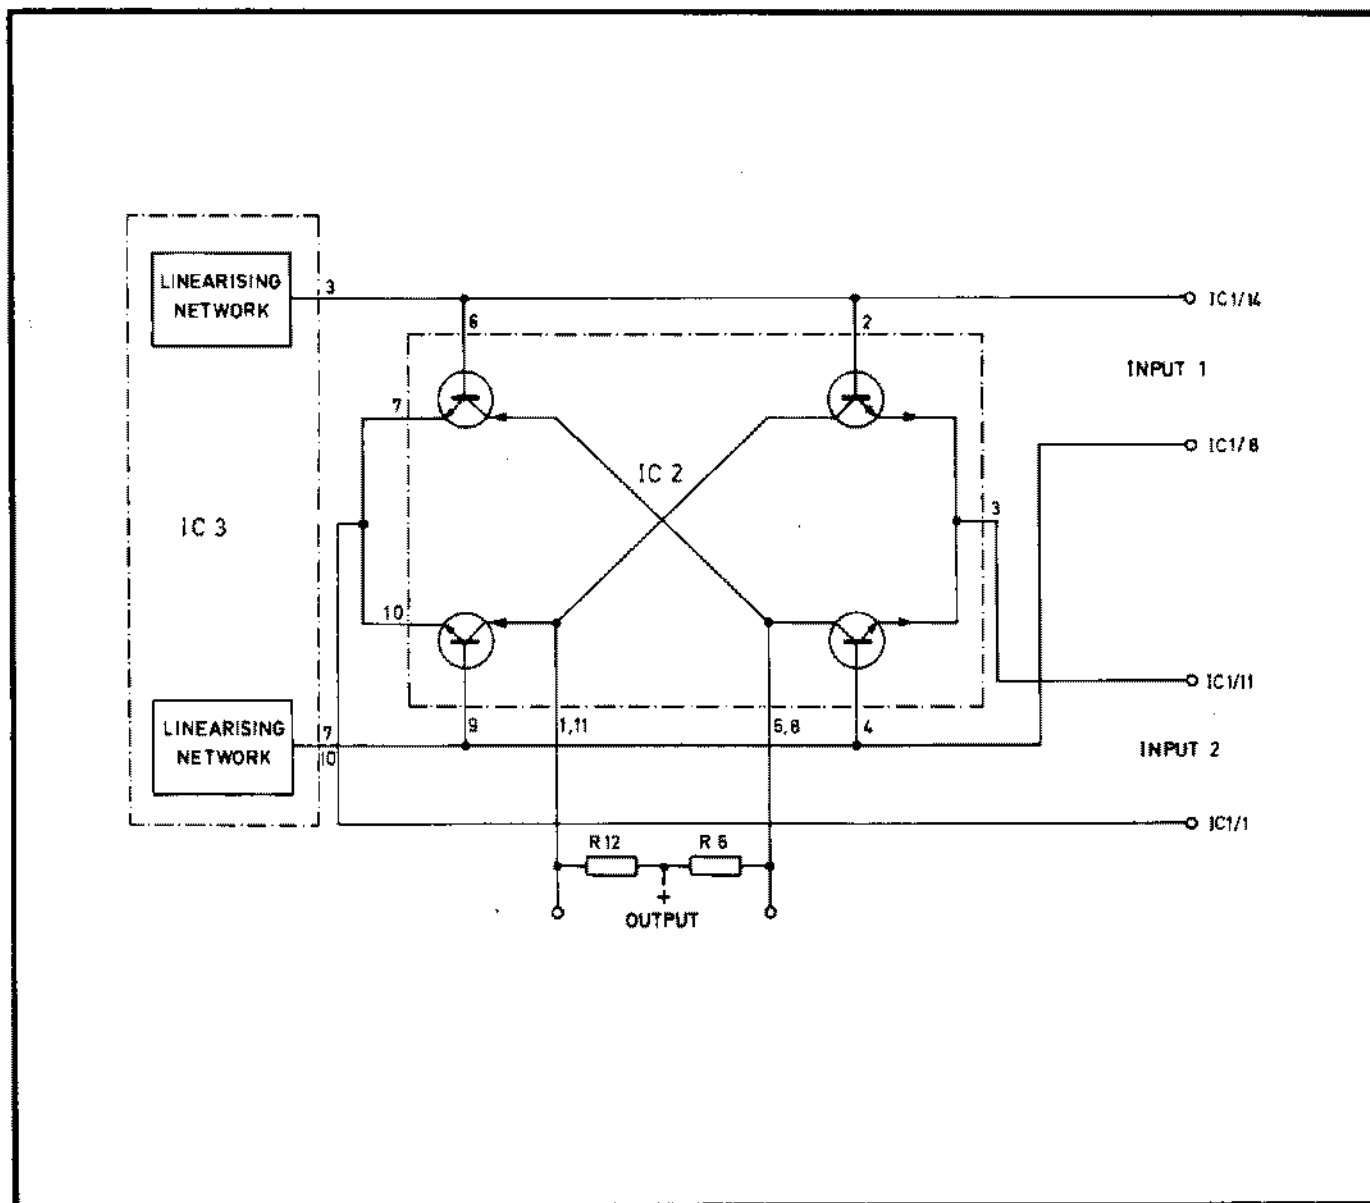

Fig. 5.4 Loop Multiplier
5.3.1.8.3 The loop multiplier is of the linearised transconductance type, a schematic circuit diagram being given in Fig. 5.4. The operation of the multiplier is described in Appendix 2 to this Section.